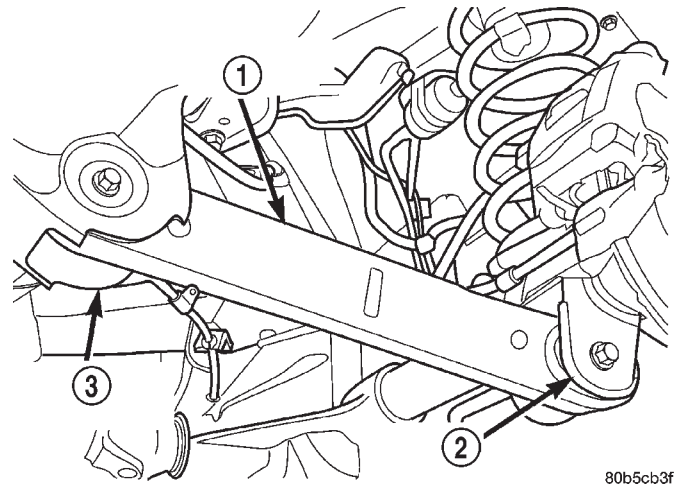

Fig. 6 Lower Suspension Arm
(1) Raise the vehicle and support the rear axle.
(2) Remove the lower suspension arm nut and bolt from the axle bracket (Fig. 6).
(3) Remove the nut and bolt (Fig. 6) from the frame rail and remove the lower suspension arm.